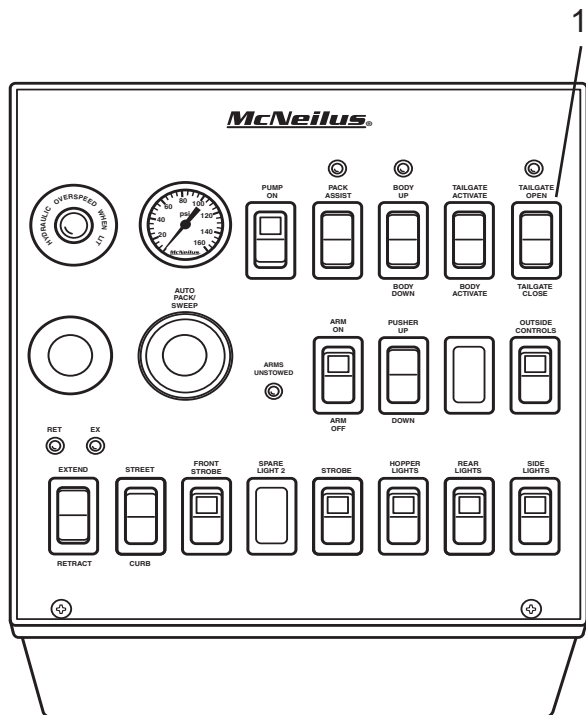

Figure 23
- Using the in-cab rocker switch, start to open the tailgate (Figure 23, Item 1).